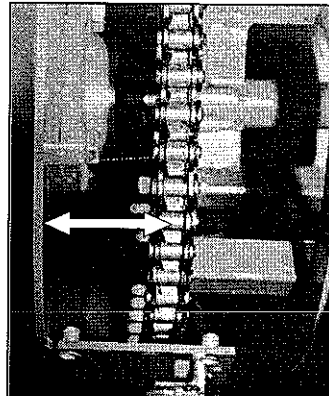

figure 32
2. For each sprocket, measure from inside the fixed chain shield to the center of the chain (figure 32).